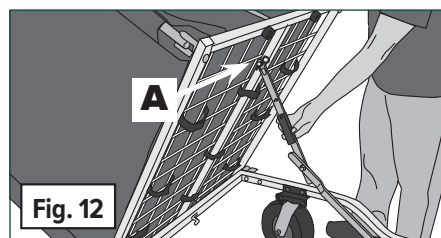

Fig. 12
2. **(Fig. 12)** Nick the reinforcing rib between the two ends of the cut using your knife or cutting pliers. Twist the rib and break it off.
4. **(Fig. 12)** Raise the collector bag by lifting the front corner of the collector frame (A) and **lock the dump linkage in the up position.**